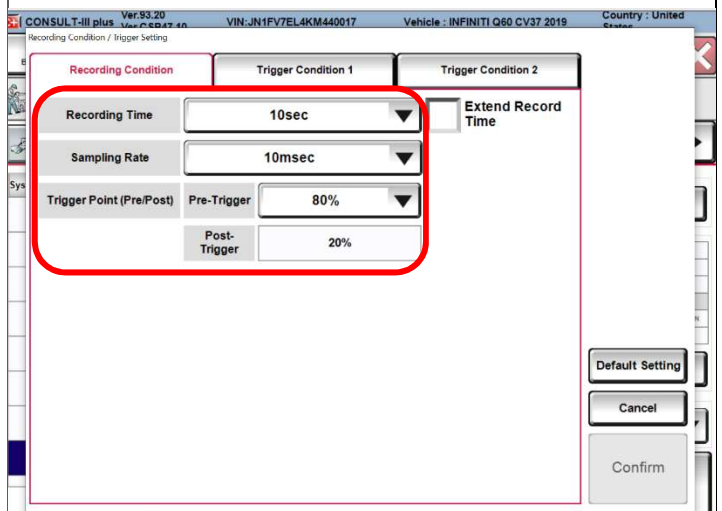

Figure 7
9. Verify the recording settings are set to default. (Figure 7)